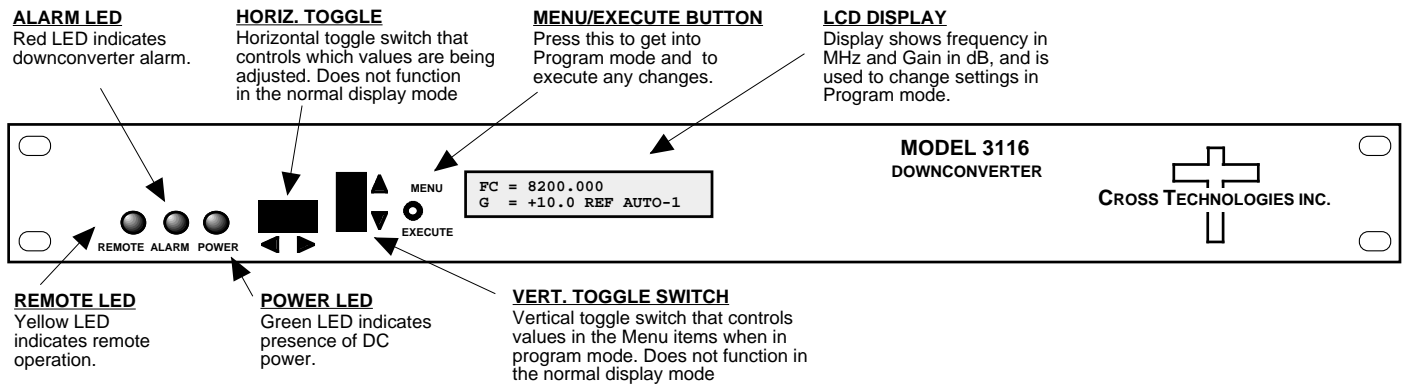

FIGURE 2.2 3116-7786-2150 Front Panel Controls and Indicators
- 5.) Be sure the green DC Power is on and the red Alarm is off (Figure 2.2).
Alarm indications appear on the LEDs (see Figure 2.2).